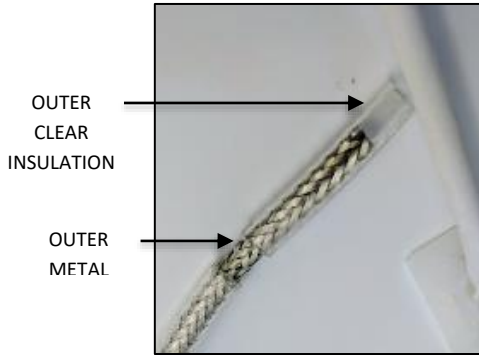
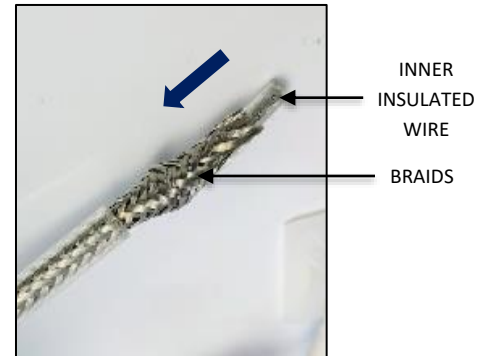

FIG. 19
FIG. 20
- Strip off 1.00" of outer clear insulation exposing the outer metal braiding as shown in FIG. 19 below. **Be careful not to cut or damage the outer metal braiding.** Gently push braiding down to loosen the individual braids exposing the inner insulated wire as shown in FIG. 20 below.